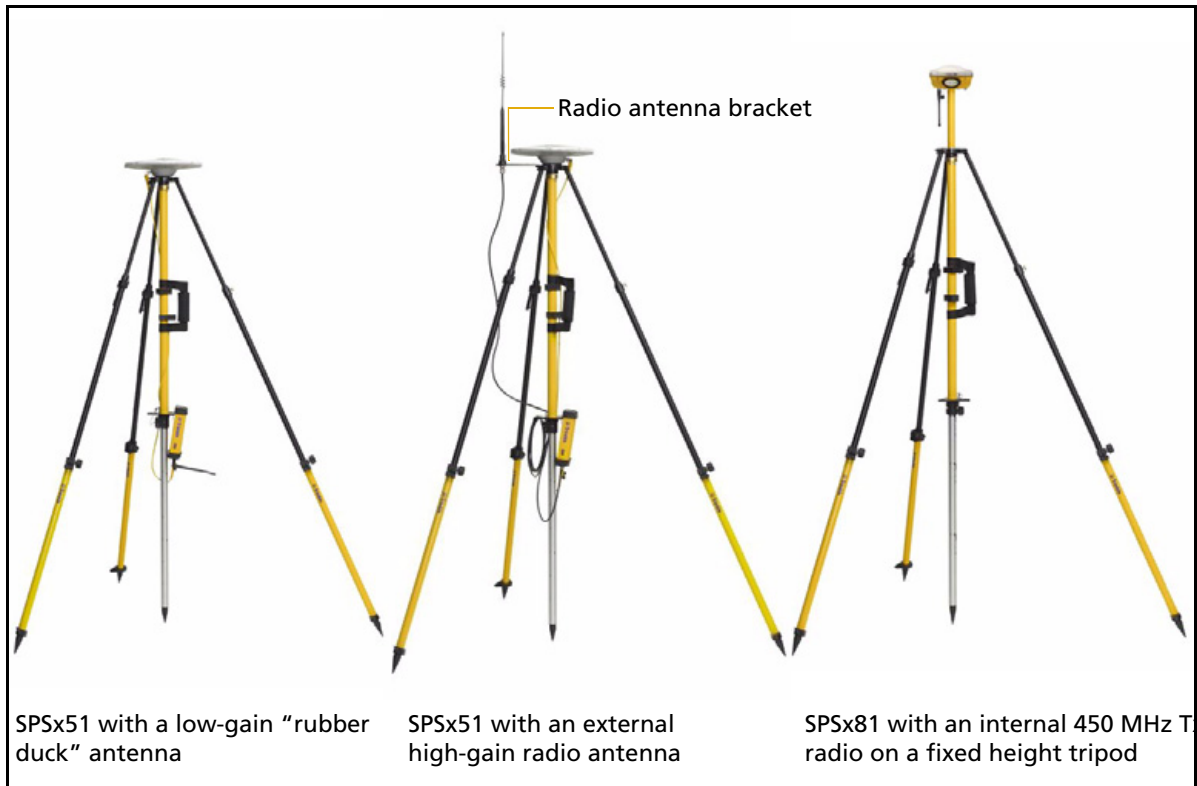

Figure 5.4 Fixed height tripod setup
3. If using an external high-gain radio antenna, mount the radio antenna to the radio antenna bracket that is attached to the head of the tripod (beneath the GPS antenna). See Figure 5.4.